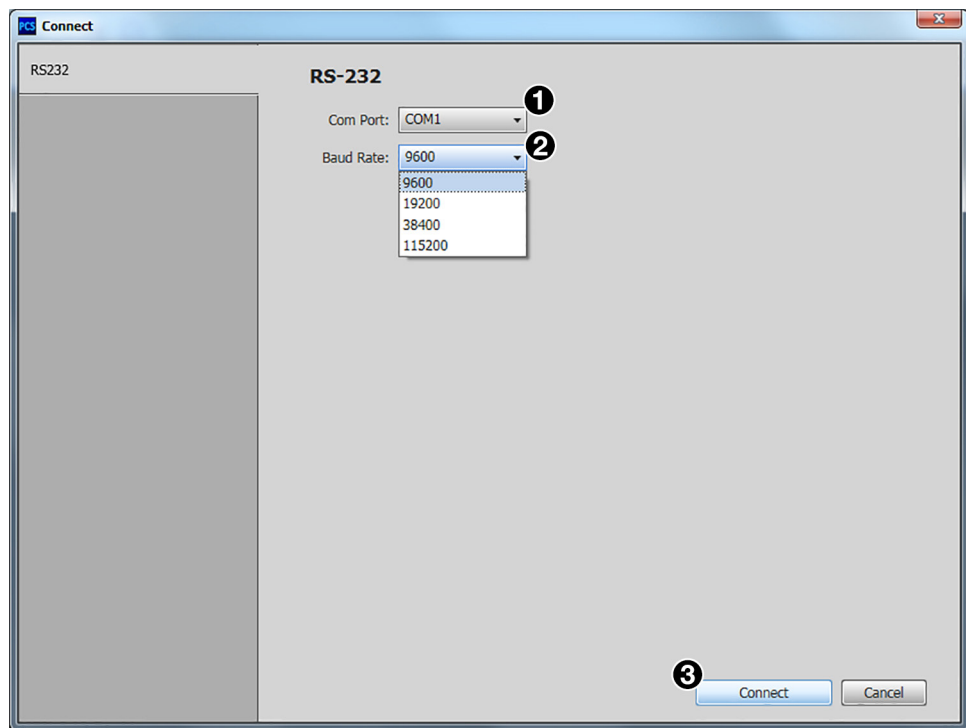

Figure 29. RS-232 Connection Window
8. From the Com Port drop-down list (see figure 29, 1), select the com port on your computer to which the USB Extender Plus is connected.
9. From the Baud Rate menu (2), select the baud rate for your RS-232 connection (the default is 9600).
10. Click the **Connect** button (3) at the bottom of the screen. The **Device Settings** screen for your USB Extender Plus opens, showing all the current extender settings.